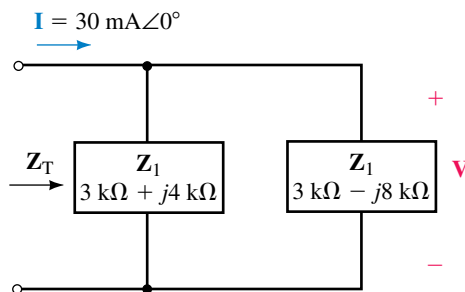

FIGURE 18–105
36. Consider the network of Figure 18–106.